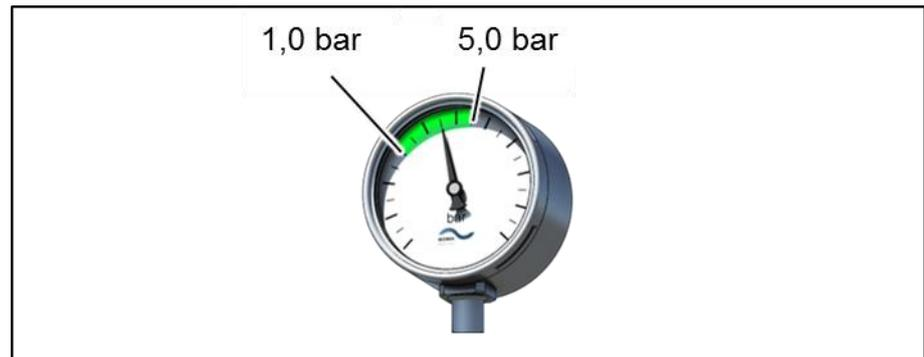

Figure 15: Inlet pressure gauge
11. Adjust the pressure between 1.0 and 5.0 bar (Figure 15), e.g. with the booster pump (if present).